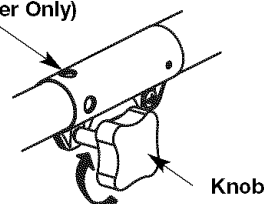

Fig. 7
1. Turn the knob counterclockwise to loosen (Fig. 7).
1. Turn knob counterclockwise to loosen (Fig. 7).
3. Turn the knob clockwise to tighten (Fig. 7).
For decorative edging with the line head trimmer attachment or other attachment, lock the release button of the attachment into the 90° hole (Fig. 7).